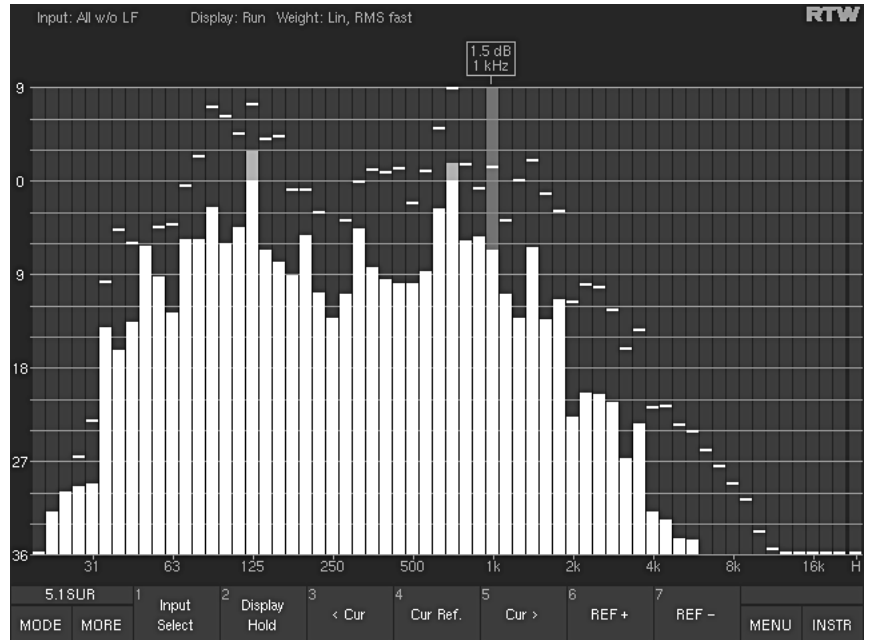

Fig. 5-21: First Toolbar function layer of the RTA instruments in 5.1 Surround mode. Select MORE to display additional functions (layer 2) (Example: RTA 1/6)
(First layer, button/key 1, see Fig. 5-21)
This function displays additional Toolbar layers (depending on the selected mode) to select the input signal source(s). After having selected the source, the Toolbar will switch back to the Function Select mode of the RTA. Maybe you will have to use the MORE button/key (if available) to find more channels on the next Toolbar layer. The Close button returns the system back to the previous layer without changing the current input source. The selected channel or channel combination is displayed in the upper left corner of the RTA instrument (see Fig. 5-21).
(First layer, button/key 2, see Fig. 5-21)
(First layer, button/key 3 and button/key 5, see Fig. 5-21)
(First layer, button/key 4, see Fig. 5-21)
(First layer, button/key 6 and button/key 7, see Fig. 5-21)